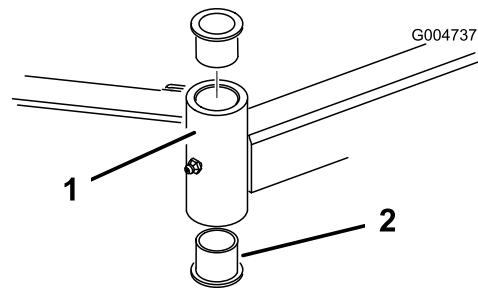

Figure 22
4. Insert a pin punch into the top or bottom of the mounting tube and drive the bushing out of the tube (Figure 22).